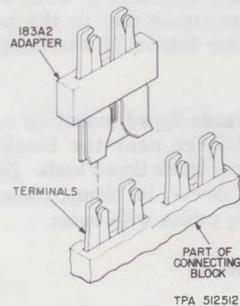
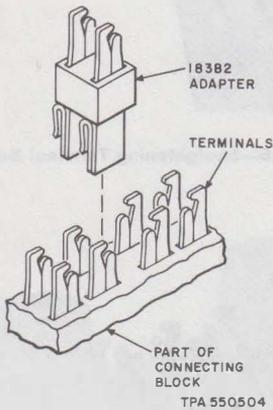

Fig. 11—183A2 Adapter, Installation Detail
Fig. 13—183B2 Adapter, Installation Detail
4.04 ♦The 183A2 adapter (Fig. 11) and 183B2 adapter (Fig. 13) provide additional multiplying capacity for horizontal and vertical terminals, respectively, on 66-type connecting blocks. If more than five adapters per block are needed, consider using additional blocks.♦